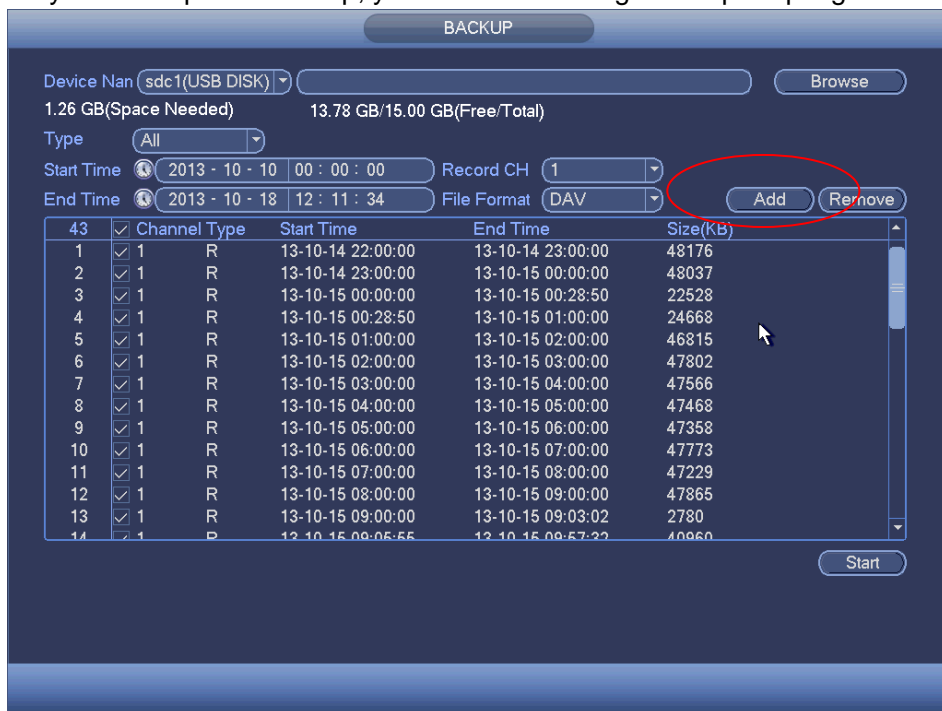

Figure 4-232
- d) Click add button, system begins search. All matched files are listed below. System automatically calculates the capacity needed and remained. See Figure 4-232.